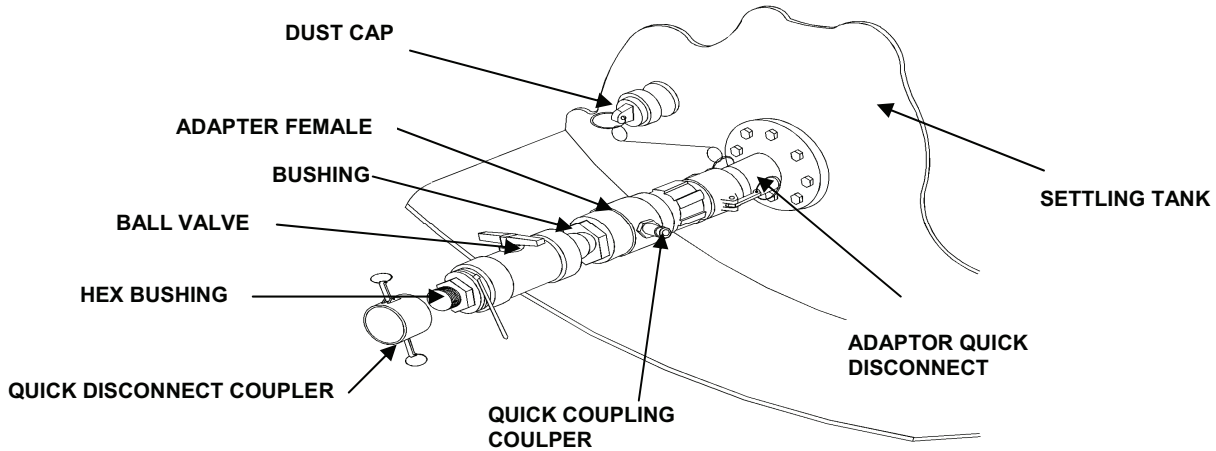
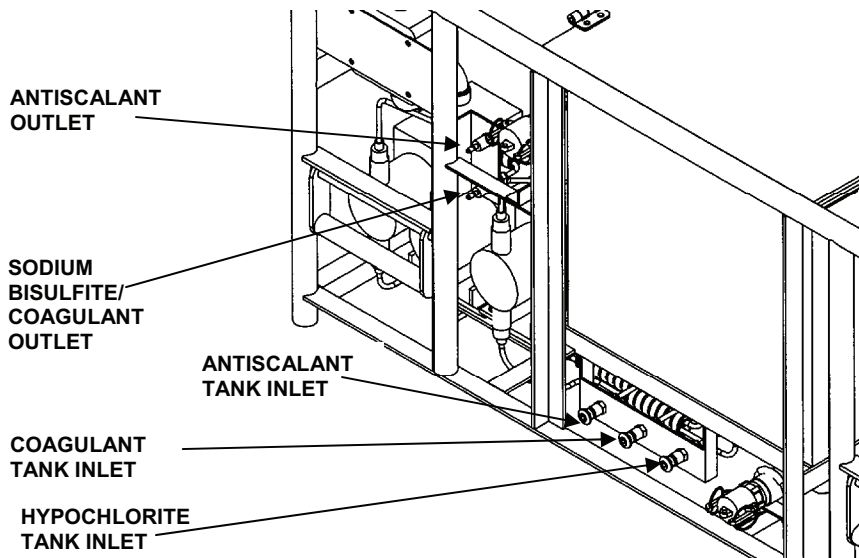
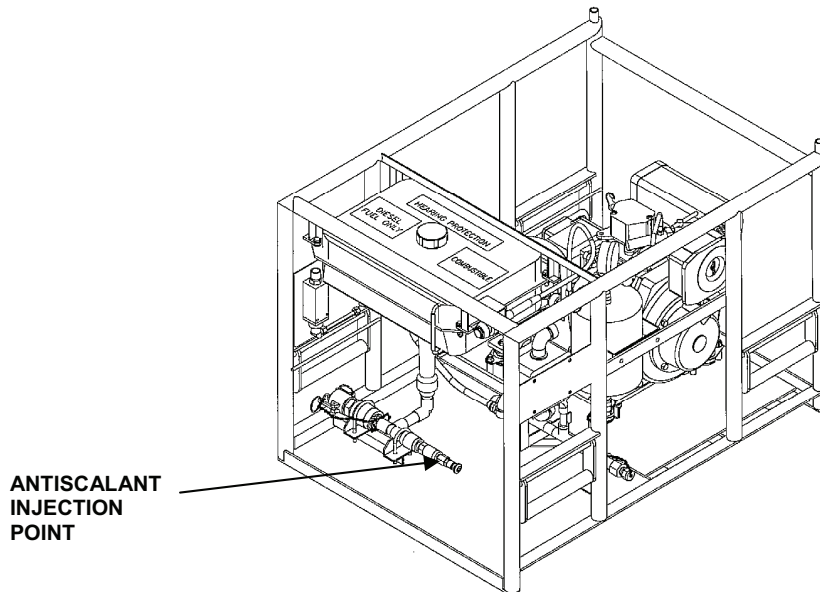

Figure 4. Sodium Bisulfite/Coagulant Injection Port on Raw Water Inlet Pool Piece.
Figure 5. Chemical Injection Quick Disconnects.
Figure 6. Antiscalant Chemical Injection Point on High-Pressure Pump Module.
8. Connect the chemical injection tubing from the coagulant/sodium metabisulfite pump (P6) outlet quick disconnect on the chemical module to the chemical injection point on the raw water inlet spool piece. See Figure 4 and Figure 5.
7. Connect the chemical injection tubing from the coagulant/sodium metabisulfite outlet on the chemical module to the chemical injection point on the raw water inlet spool piece connection. See Figure 4 and Figure 5.
7. Connect chemical injection tubing from the chemical module antiscalant outlet to the antiscalant injection point on the high-pressure pump module. See Figure 5 and Figure 6.